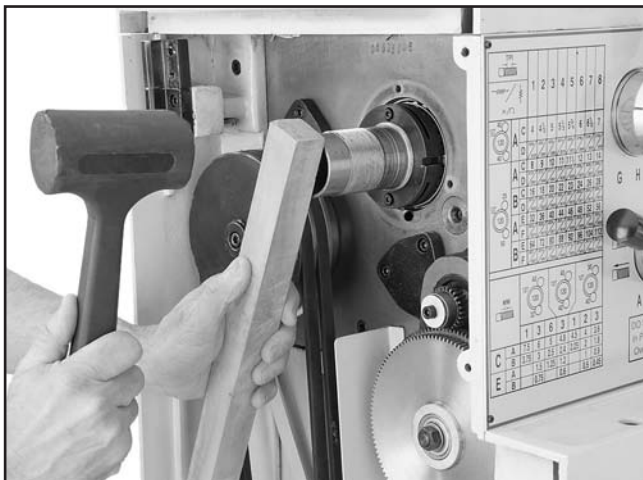

Figure 96. Introducing detectable spindle end-play.
9. Place the wooden block over the outboard end of the spindle, and hit it soundly with the heavy dead blow hammer, as shown in **Figure 96**.